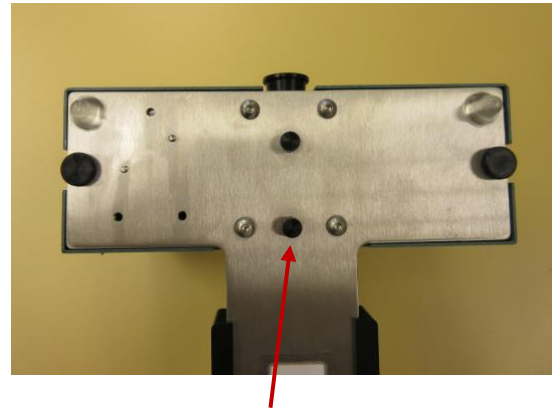

Figure 3.1.2 Bushing (outlet) set screw
- Flip the cutter upside down, loosen the outlet bushing set screw and remove bushing from cutter. *Figure 3.1.2*
- While holding bushings against blade, tighten inlet and outlet set screws. *Figure 3.1.2&3.1.4*